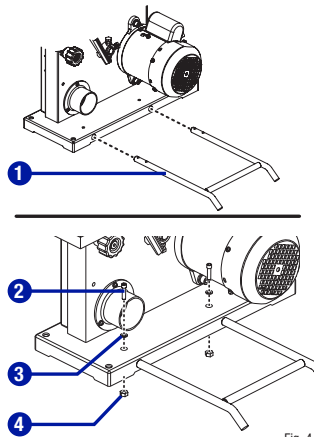

Fig. 4
MOUNTING ADDITIONAL SUPPORT ON THE BASE (Fig. 4)
- Remove the D-nut (1), flat washer (2) and wing screw (3) from the hole located in the front edge of the work table (4). (Fig. 4)
- Standing at the front of the band saw, slide the work table (4) past the blade (5) and through the slot moving from the right side of the work table to the left.
- Holding the work table with your left hand while pulling the table tilt adjustment knob (6) away from the saw frame, align the teeth on the table support assembly (7) with the teeth on the table tilt adjustment knob (6). Release the knob.
- Fit the pins on the frame into the slots of the table support assembly (7)
- Insert the washer (8) on the threaded end of the table tilt locking lever (9). Tighten the work table to the saw frame by turning the table tilt locking lever (9) clockwise.